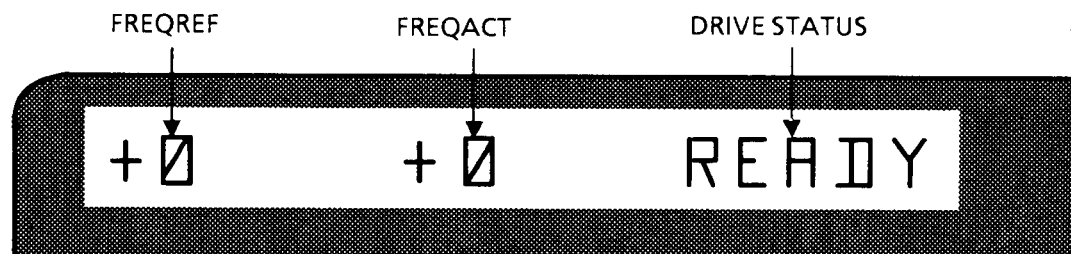

Figure 3-45. Control Panel Display After Power-Up
- 3-2.6-4 Starting and Stopping the Drive** - Upon power up, the Control Panel will momentarily flash a message such as NO DATA TO DRIVE or WAIT, while the Drive performs various self diagnostic checks. Once these checks are complete, and assuming no errors are found, the display will change to READY status (Figure 3-45).
When the START key is pressed, the drive will accelerate the motor to + 500 and the display (Figure 3-45) will indicate FREQREF, FREQACT and the actual motor current.